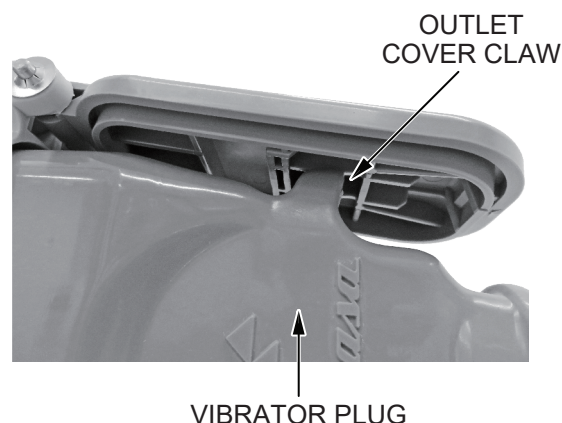

Figure 7. Output Outlet Cover Claw
- Make sure the **output outlet cover claw** (Figure 7) is properly engaged with the male plug, and does not come off when pulled lightly.